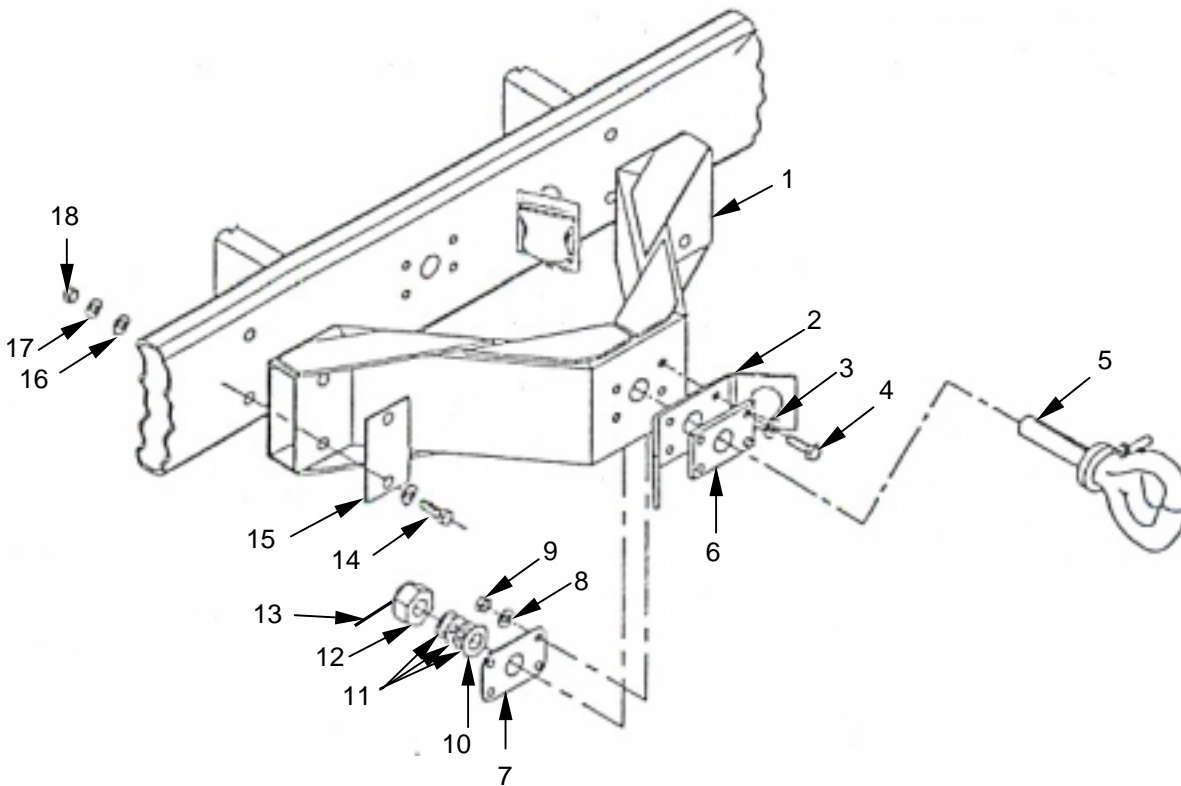

Figure 4-8. Pintle Extension Installation
(1) Secure pintle extension ((1)-Figure 4-8 next page) to rear bumper with two plates (15), four screws (14), eight existing washers (16), four lock washers (17), and four lock nuts (18).
(2) Secure existing safety chain plate (2), support plate (6), and pintle plate (7) to pintle extension with four screws (4), washers (3), lock washers (8), and lock nuts (9). Do not tighten.